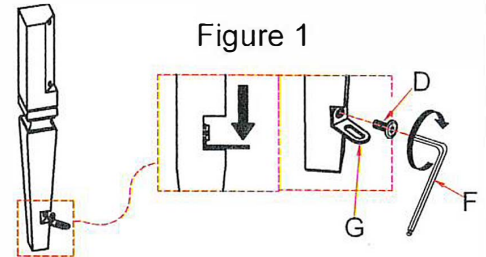

Figure 1
1. Turn Table Top on to a clean, soft surface. Attach Metal "L" (G) on the Legs by using Bolt (D) with Allen Key (F). (See Figure 1).